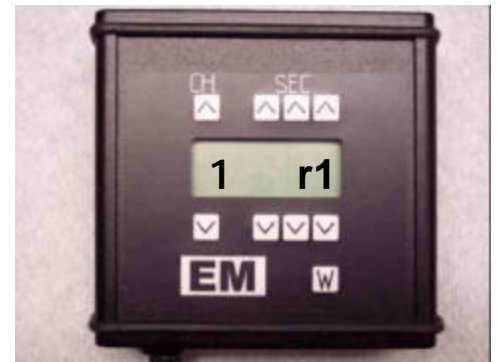

Fig.7
5. If you want the selected channel to be an RPM activated channel choose r1 or r2. You will enter the RPM values later. (Fig. 7)